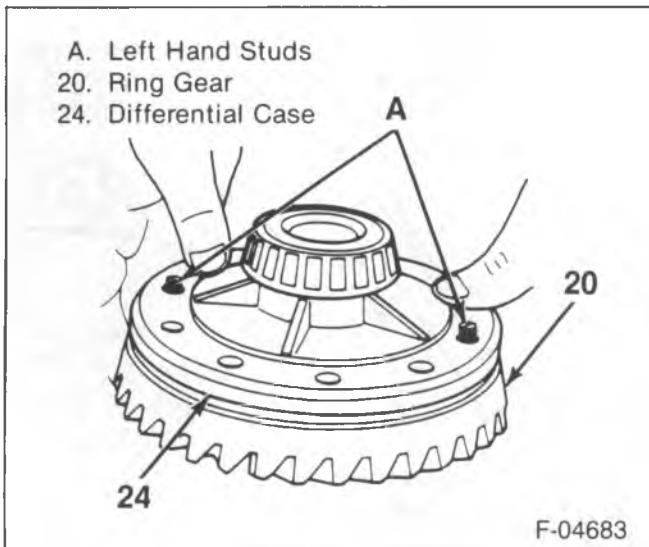

Figure 11—Aligning the Ring Gear Studs
- 3. Pinion gears (28) to the differential without the thrust washers (27).
- 4. Pinion thrust washers (27).
- 7. Ring gear (20) to the differential case (24) (figure 11).
- 8. New ring gear bolts (25).